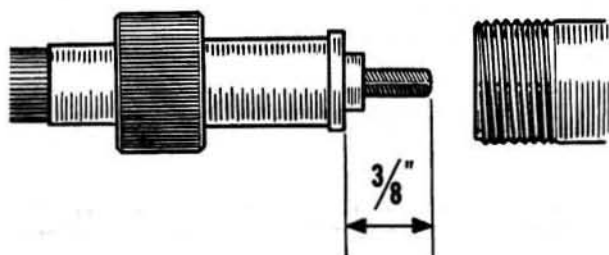

Fig.10.45. Engagement of inner flex of speedometer drive cable
f) The inner flex must protrude 3/8" beyond the outer case as shown in Fig.10.45.
by lack of lubrication of the inner cable, kinked cable, crushed outer case, connections overtightened, severe bends in the cable, insufficient engagement of the inner cable (Fig.10.45) etc.